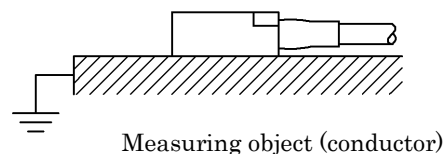

Figure 2-3
- The grounding is an effective measures against noise and failure of the transducer caused by electric charge. (Figure 2-3)